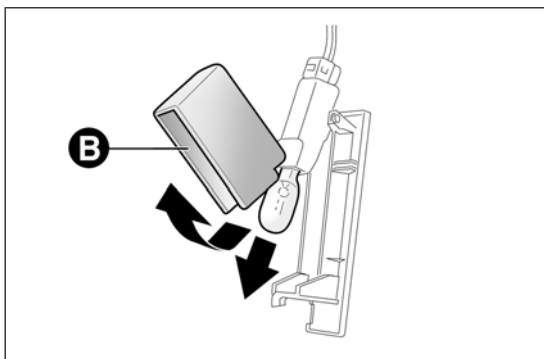

fig. 143
- open the protection B fig. 143 and replace the bulb;